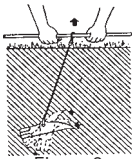

Figure 2
A. Attach your Rain Bird® power cable to the aerator. Align the pigtail connector on the cable up to the pin configuration on the bulkhead on the aerator. **HAND TIGHTEN** the coupling nut onto the bulkhead connector. **DO NOT OVER TIGHTEN -- OVER TIGHTENING WILL CAUSE A FRACTURE IN THE CONNECTOR AND COULD LEAD TO A SHORT CIRCUIT--** see figure 2.
3. At the mooring points themselves you will need a wooden stake, 1/2"/1.25 cm of rebar or a "duck bill" type earth anchor --see figure 2.